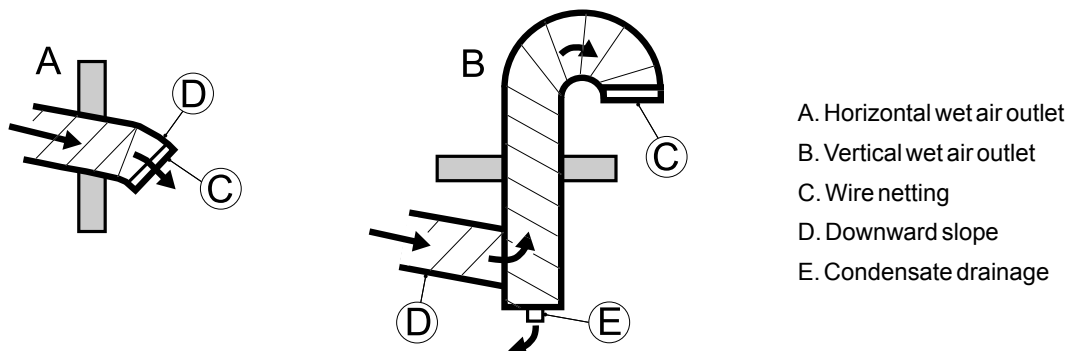

Figure 4.7 Wet air outlet design
- Horizontal wet air ducts must be installed with a slight decline (away from the dehumidifier) to drain away possible condensation. Suitable condensation drains must be installed at low points in the wet air outlet duct, see *Figure 4.7*.